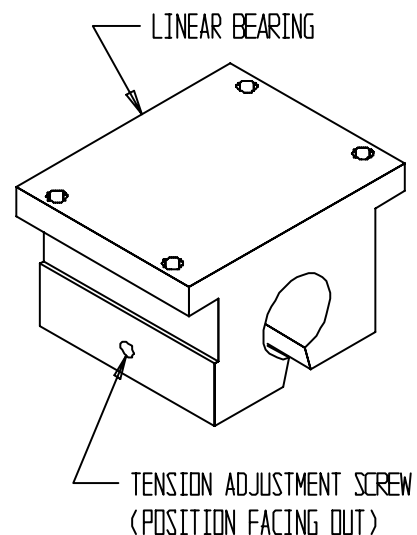

FIG. 14
STEP 3--Insert a new linear bearing onto the end of the carriage shaft with the tension adjustment screw pointing outward. See FIG. 14. Adjust the tension screw of the linear bearing so when you radially rotate the linear bearing around the carriage shaft there should be no free play between the linear bearing and the carriage shaft.